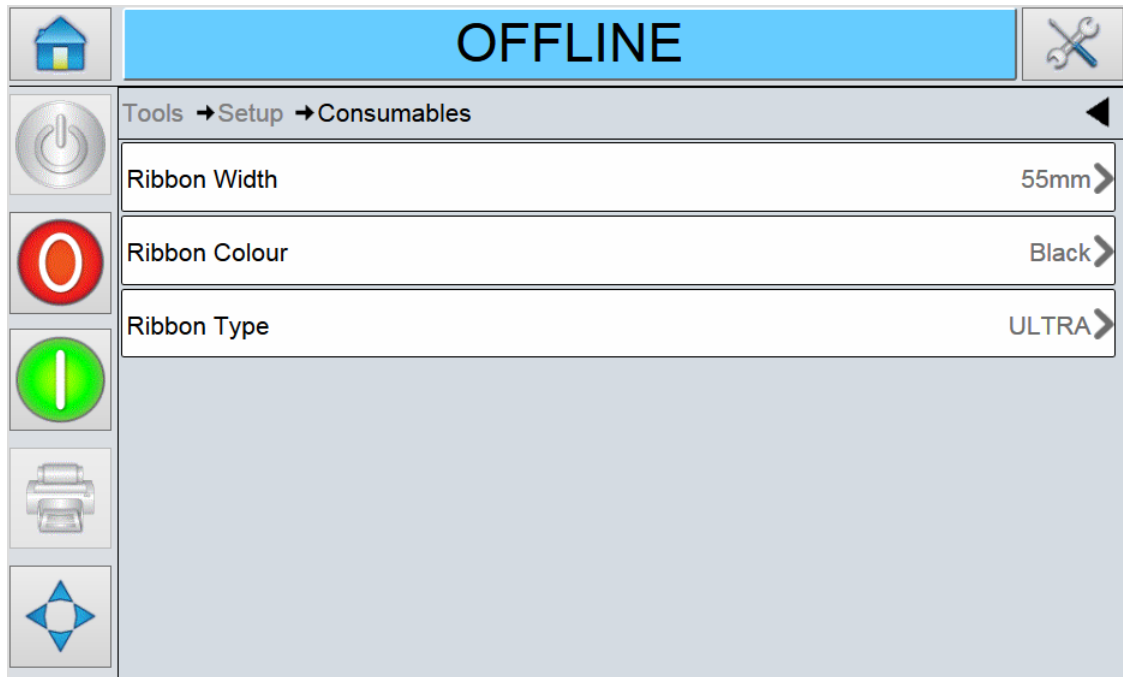

Figure 4-16: Printer Ribbon Parameters
1. Navigate to *Tools > Setup > Consumables > Ribbon Width* (see Figure 4-16).
1. Navigate to *Tools > Setup > Consumables > Ribbon Colour* as shown in Figure 4-16 on page 4-13.